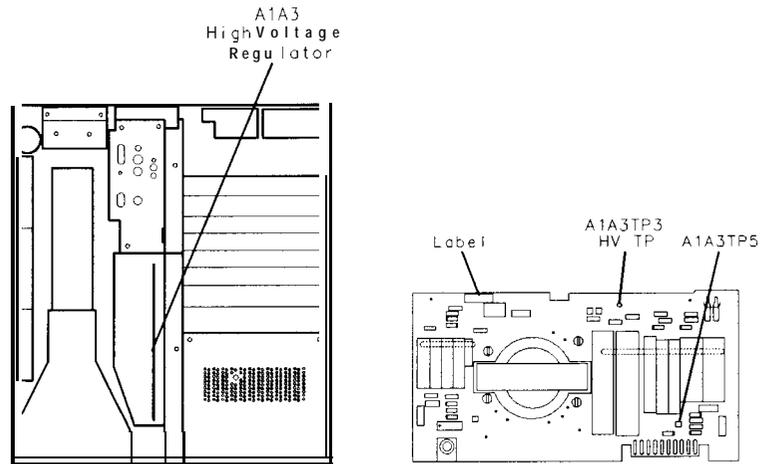

Figure 3-7. Location of Label and Test Point
12. Connect the high-voltage probe to A1A3TP3. See Figure 3-7 for the location of the test point.
28. Connect the oscilloscope channel 1 probe to A1A3TP5 using a long probe extension. See Figure 3-7 for the location of A1A3TP5.